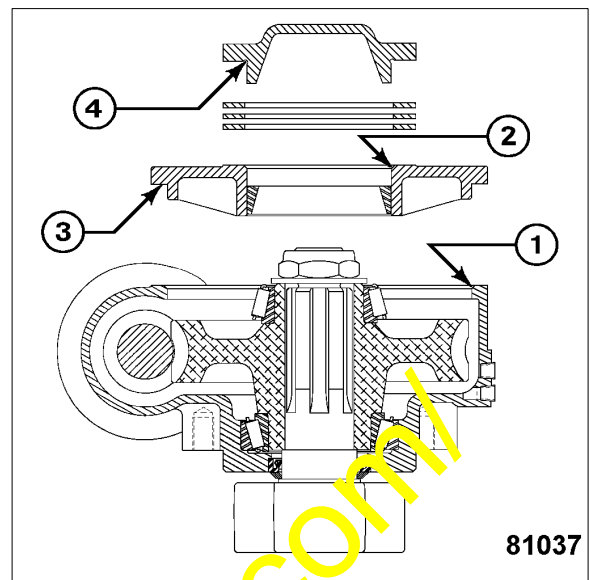

Figure 3
7. Install cover to case, circle bolt holes with Loctite, apply Loctite to threads of two bolts used in through holes at worm pinion (1, Figure 3); install six washers and bolts. Cross tighten bolts to 70 lbf ft 9.7 kg•m).
10. Place determined shim pak on bearing retainer, Install bearing retainer and shims to circle drive case cover; circle bolt holes with Loctite, and install six washers and bolts (2, Figure 3). Tighten to 32 lbf ft. (4.4 kg•m).